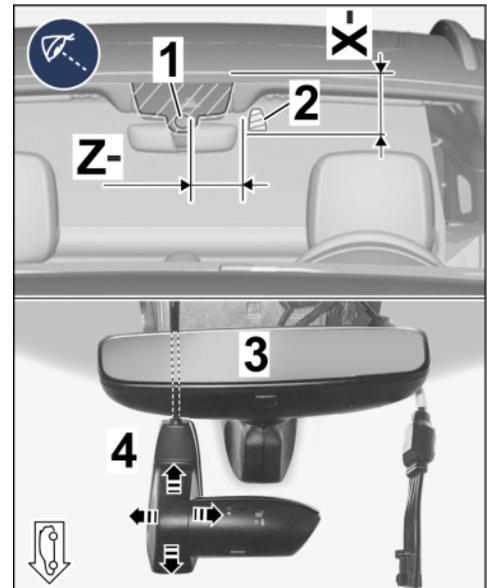

Figure 8
2.1.3 Copy dimensions X- and Z- on outside of windscreen according to country/market. ⇒ *Figure 8-Top-*
2.1.4 Position front camera with mounting plate in the vehicle at the marking on the windscreen. ⇒ *Figure 8-Arrow-*